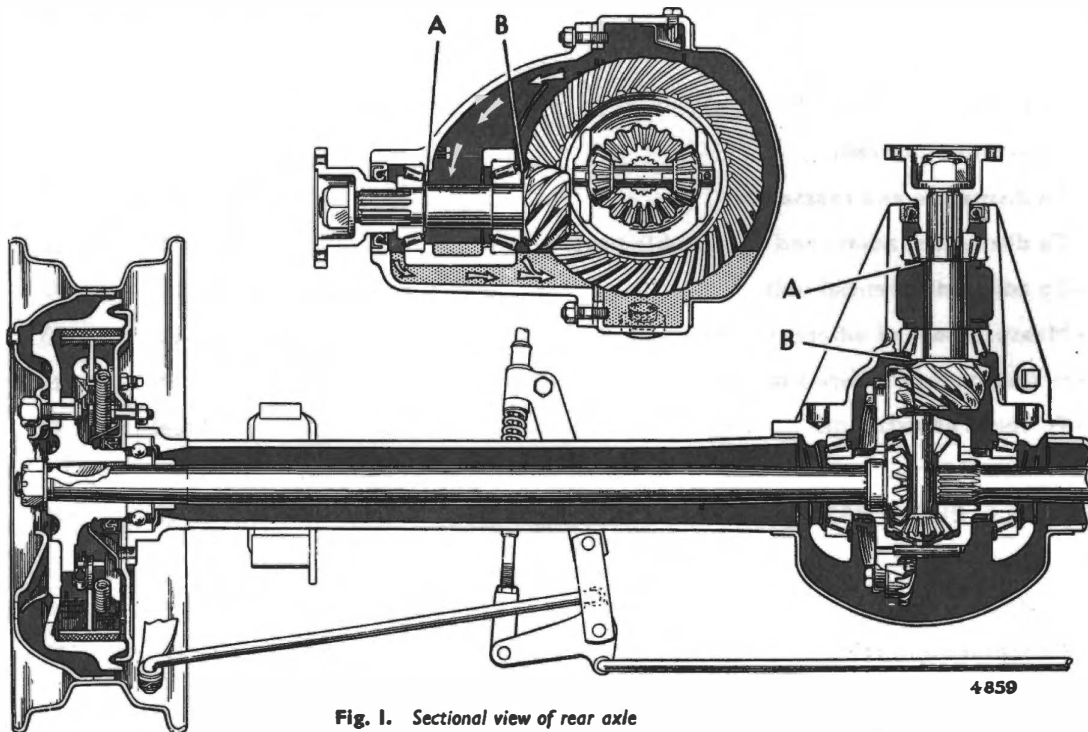

Fig. 1. Sectional view of rear axle
(Figs. 1 and 3)
**HUB OIL RETAINERS (Figs. 1 and 3)**
Fit outer member of splash guard (38), into bearing recess (Fig. 1), with recessed centre inwards. A little grease smeared around the housing will help to keep the guard in place whilst entering the shaft and bearing.
**Rear hub bearings—To remove from axle shaft and refit (See Figs. 1 and 3)**